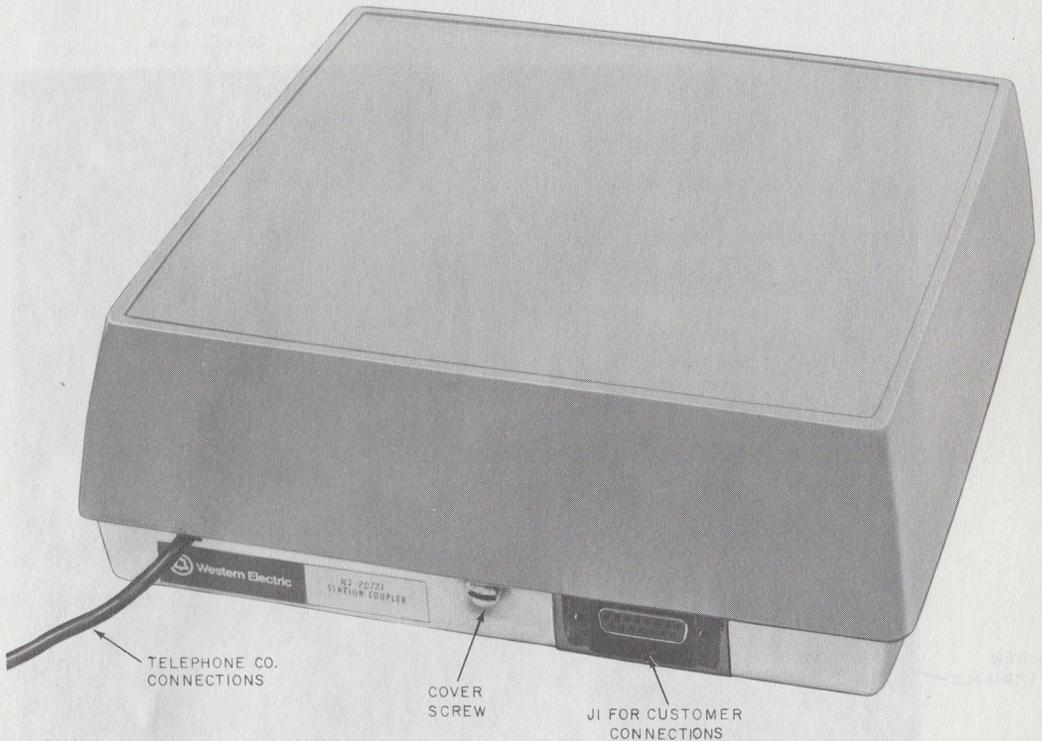

Fig. 1—KS-20721, List 1 or List 4 Station Coupler
- Coupler, Station, KS-20721, L4 (Fig. 1)
- Coupler, Station, KS-20721, L1 (Fig. 1 and 2)
**2.02** The KS-20721, List 4 station coupler (Fig. 1) consists of a KS-20721, List 1 station coupler with a KS-20721, List 10 hinge assembly and a KS-20721, List 14 ring supply, factory installed.
**3.02** A 15-pin connector (J1, Fig. 1) is located on the base of the unit to connect the transmission path and control leads to the CPE. The mating Cinch Manufacturing Co. or ITT-Cannon Electric Plug No. DA-19603-403 with Hood No. DA-51225-1 is customer-provided. Screw terminals on the left side of the printed circuit board provide connections to the CO line, Telephone Company-provided telephone set, and 2012B power transformer (or power supply). Flexible jumper leads with connectors provide for installation options.